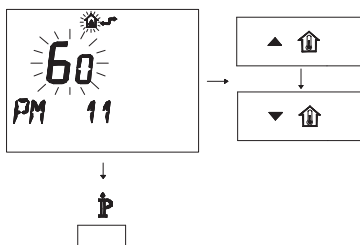

Fig. 7.31
- To modify the programmed SET, act on buttons ▲↑ or ▼↓ and wait for the programmed number to flash (Fig. 7.31). Each step increased or decreased corresponds to 1 second.